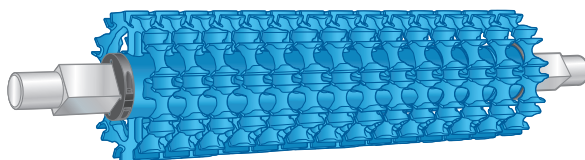

Figure 11
- Consider using stacked sprockets in heavily-loaded applications or when precise scraping is critical (Figure 11).